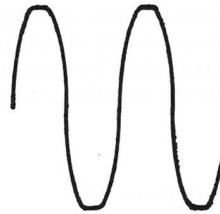

FIGURE 2.
3. Adjust the Limit Level control counter clockwise until the sine wave is normal then reverse the direction of adjustment until the sine wave just starts to flatten out. (See Figure 2). The Limit Level control is now set.